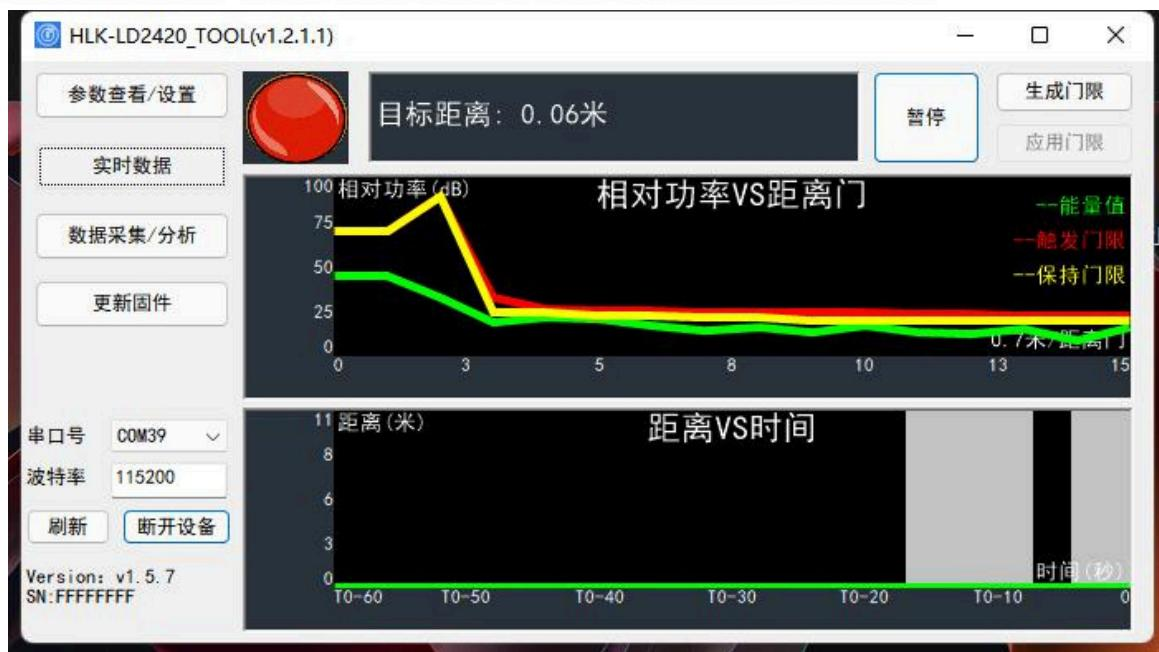

Figure 4-5 Threshold Collection Page
Step 1: When the "Start/Pause" button on the "Real-time Data" page displays "Pause", click the "Generate Threshold" button. The host computer tool will pop up the "Threshold Acquisition" information window. The table above will display the trigger energy and hold energy values of each range gate in real time, and the progress bar below will display the scanning progress, as shown in Figure 4-5.